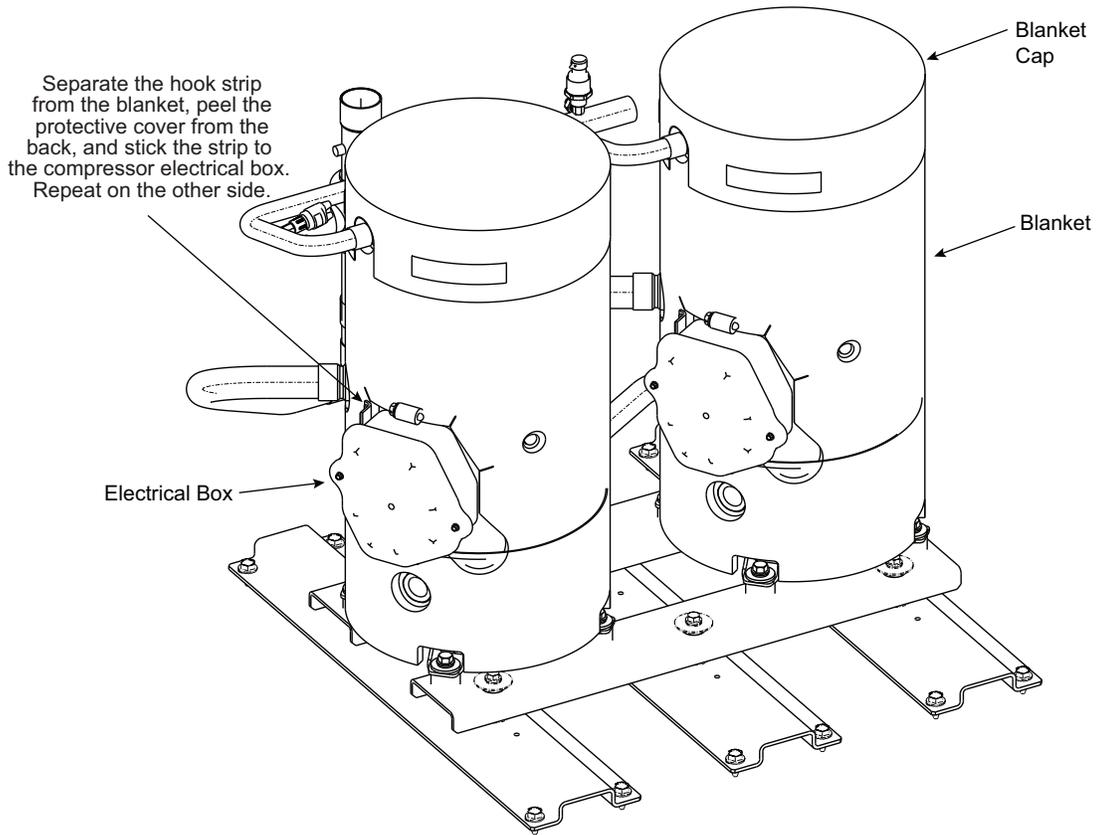

Fig. 3 — Complete Wrapping — 15T Compressors
6. Separate the hook strip from the blanket, peel the protective cover off the back of the strip, and stick the strip to the clean compressor electrical box. Repeat on the other side. See Fig. 3 for 15T compressors. See Fig. 4 for 20T, 25, 40T (other than 230-v) and 44T (other than 230-v) compressors. See Fig. 5 for 40T (230-v) and 44T (230-v) compressors. Attach blanket to strip.